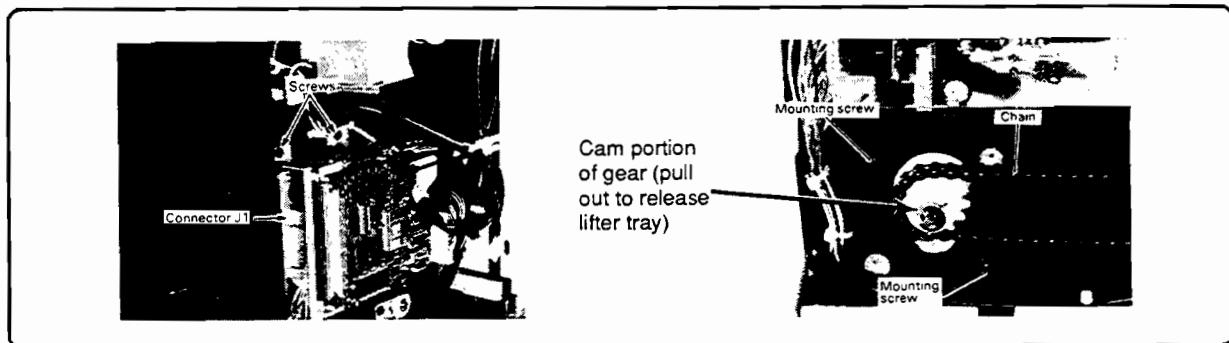

Figure 6-139. PDU PCA and Lifter Drive Chain
2. Remove the two screws, slant the top part of the PD/DU controller PCA mounting plate outward, and unplug connector J1 on the deck unit controller PCA (Figure 6-139).
3. Remove the two mounting screws of the lifter motor and remove the chain from the sprocket of the lifter motor (Figure 6-139).
2. Attach the lifter motor to the rear plate with the two screws, making sure the chain is taut (Figure 6-139).
3. Connect connector J1 to the deck unit controller PCA, and attach the PD/DU controller PCA mounting plate with the two screws (Figure 6-139).